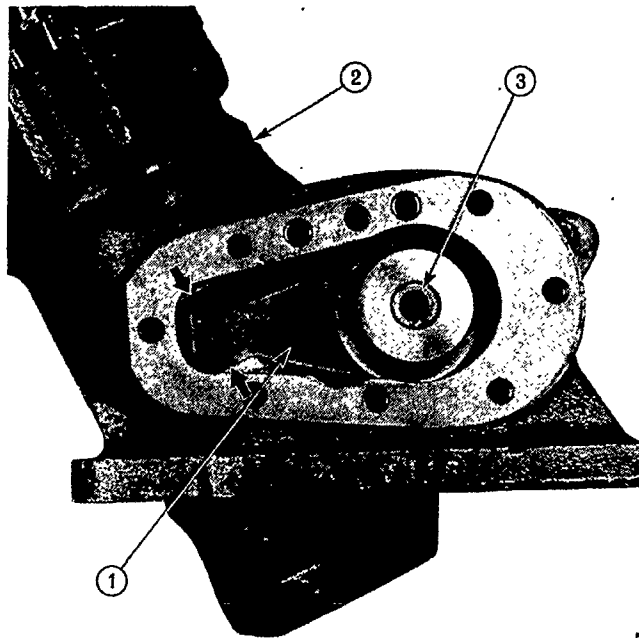

Figure 7
4. Align the arm on the rocker shaft and the slot in the main nut with the main housing side opening as shown in Figure 7 by rotating the steering shaft spline, and slide the rocker shaft out of the housing.
8. Remove the locating spring, Figure 7, from the rocker shaft and examine the rocker shaft arm, spline and bearing surfaces; renew if distortion or excessive wear is found.